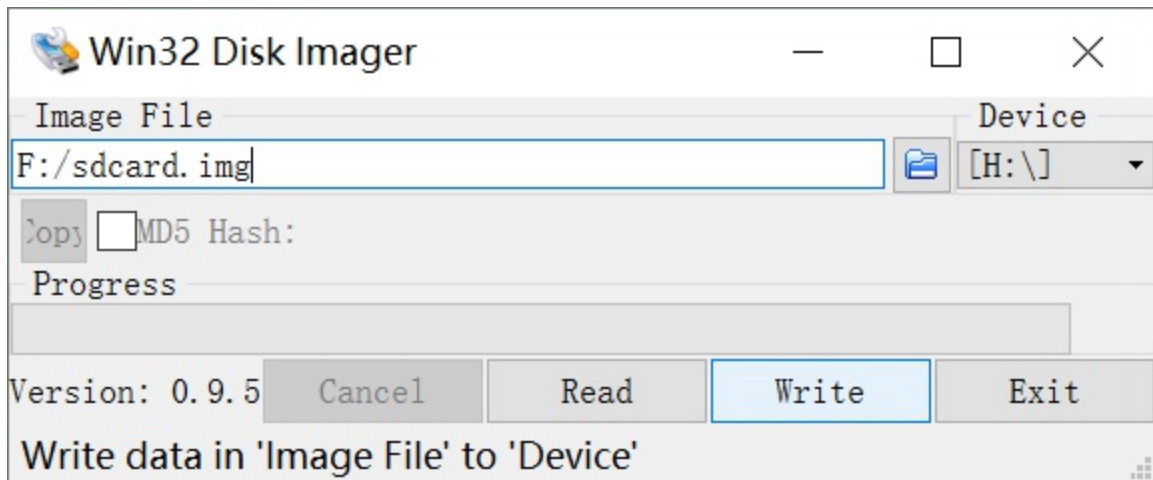

Figure 6-1 Write 'sdcard.img' to TF/SD card with 'win32diskimager'
- Write `sdcard.img` to the TF card with `win32diskimager.exe` as shown in Figure 6-1 above.